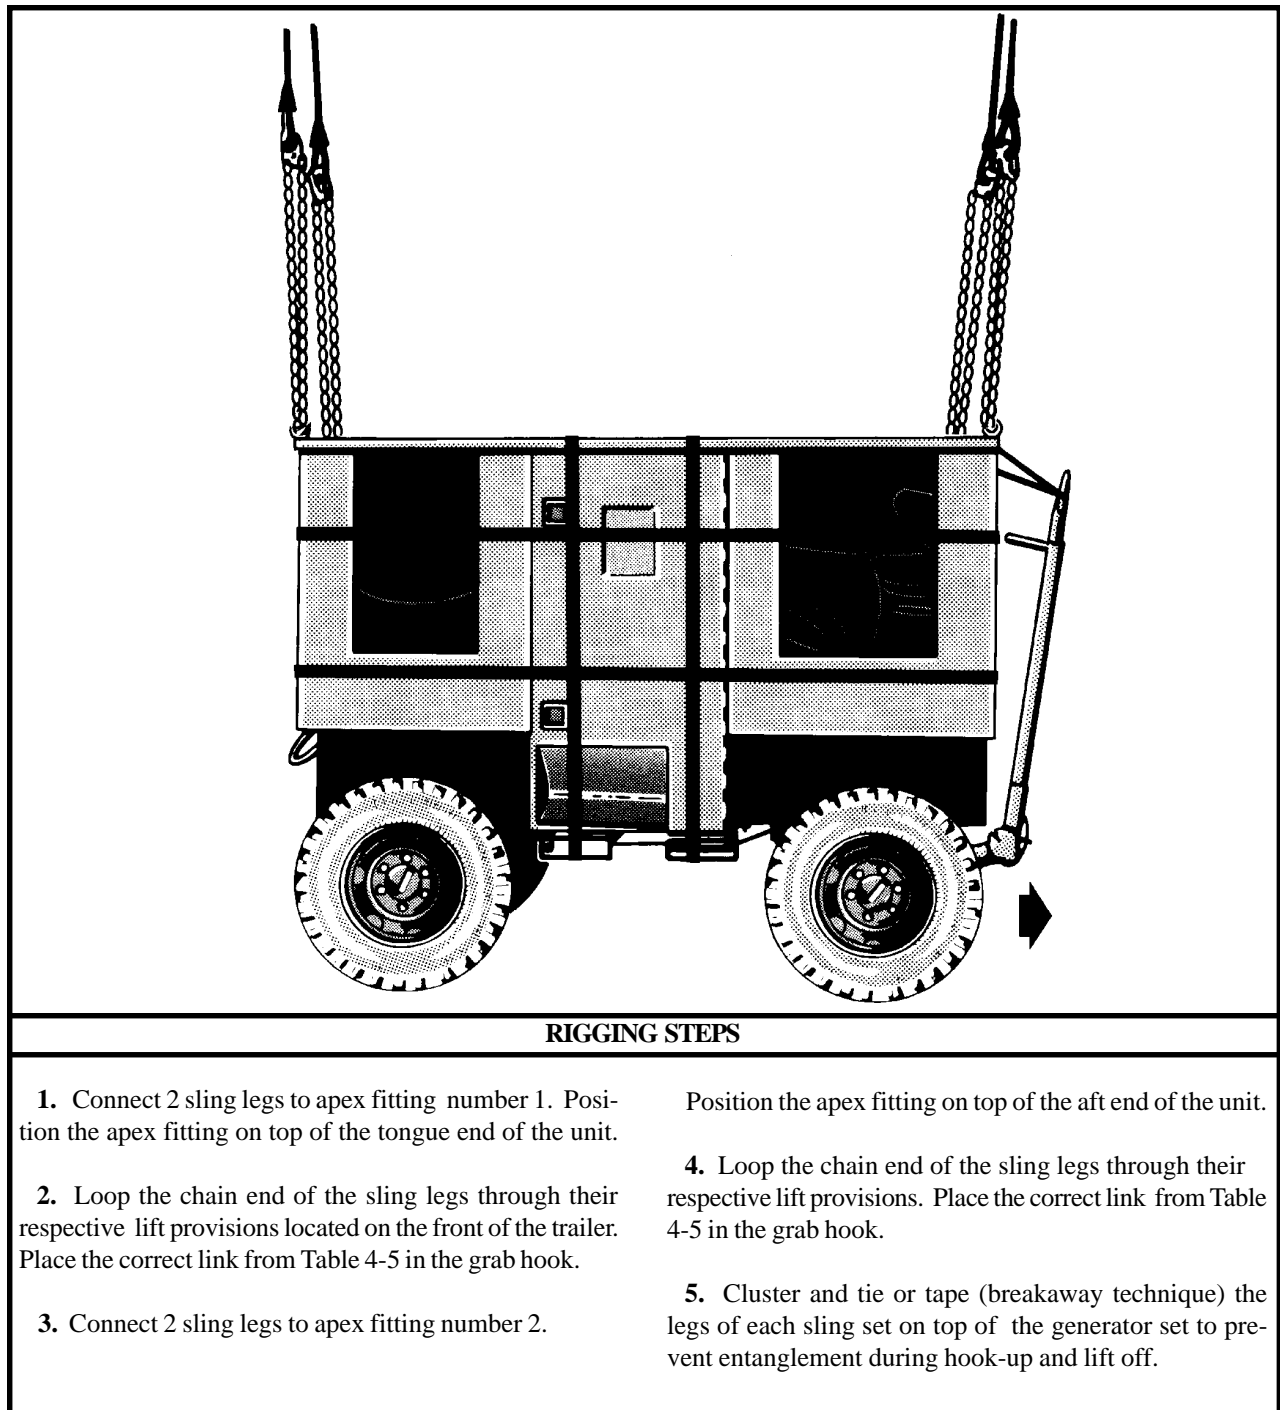

Figure 4-5. Aviation Ground Power Unit
(2) **Rigging.** Rig the load according to the steps in Figure 4-5.
(4) **Derigging.** Derigging is the reverse of the preparation and rigging procedures in steps d (1) and d (2).